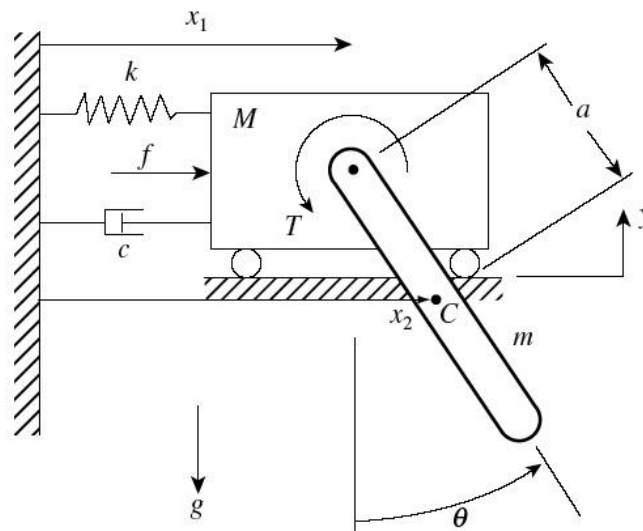

Figure 4/Rajah4
4. (a) Figure 4 shows a cart and pendulum system. The mass of the cart is M and connected to a spring of stiffness k and damping c . It is subjected to a force f and the displacement of the centre of the mass is represented by x_1 . The pendulum is a slender beam of length ℓ with mass m and the centre of gravity located at point C with the distance a from the pivot. X_2 is the linear displacement of point C while θ is the rotational angle of the pendulum. The pendulum is subjected to torque T .